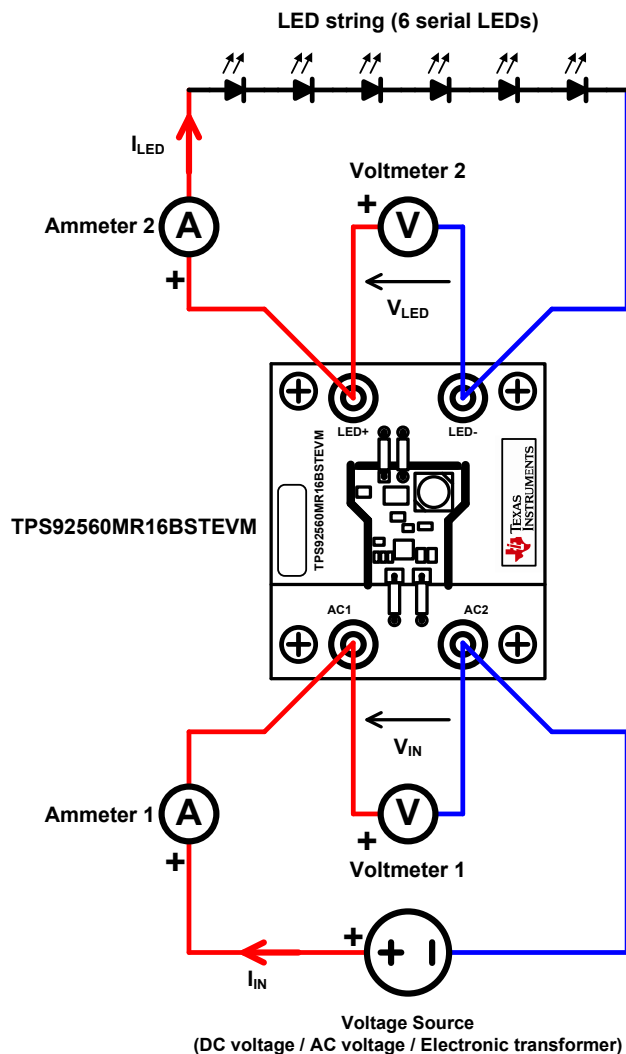

Figure 4. Connection Diagram of the TPS92560MR16BSTEVM
- Connect an LED string of 6 serial LEDs to the terminals LED+ and LED– of the EVM. An external ammeter (Ammeter 2) can be used in series to the LED string as shown in Figure 4 to measure the RMS LED current.
- Connect the power source (a 12-V_{DC} power source, 12-V_{AC} power source or electronic transformer) to the terminals AC1 and AC2 of the EVM. An external ammeter (Ammeter 1) can be used in series to the power source as shown in Figure 4 to measure the RMS input current. Do not make the connection when the power source is turned on.